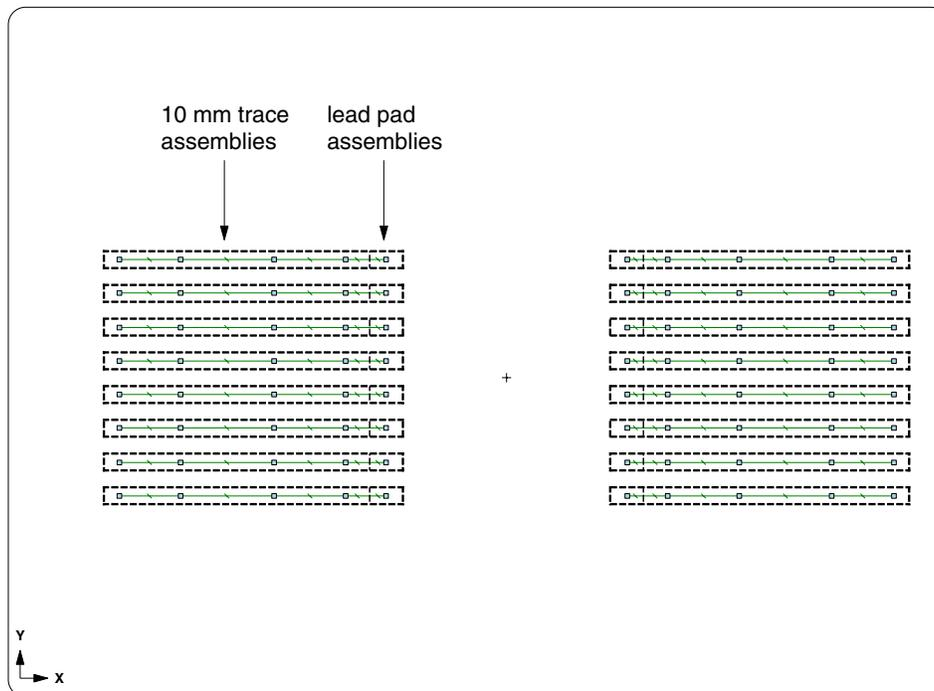

Figure 5: Lead pads and traces for SOIC 16 component
**<F3 Zoom In> → *zoom in to match Figure 5 on next page***
As shown in Figure 5, Sauna created separate assemblies for the lead pads and traces. Thus, a total of 32 assemblies were created (16 lead pads + 16 traces). When you add the actual component, Sauna will need to find a lead pad of exactly the correct size, *do not delete or reshape the lead pad assemblies.*